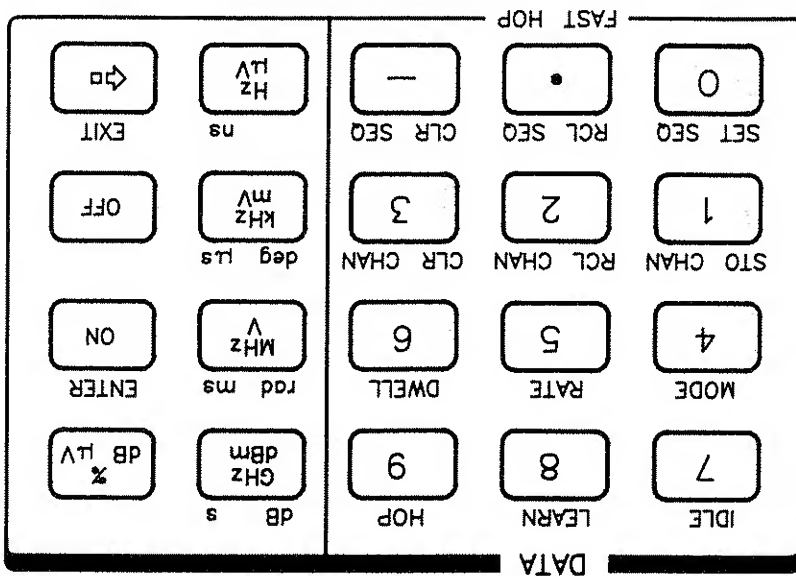

Figure 3-3. Data Keys for Start, Stop, Center, and Span.
- Use the front-panel **DATA** keys shaded in figure 3-3: